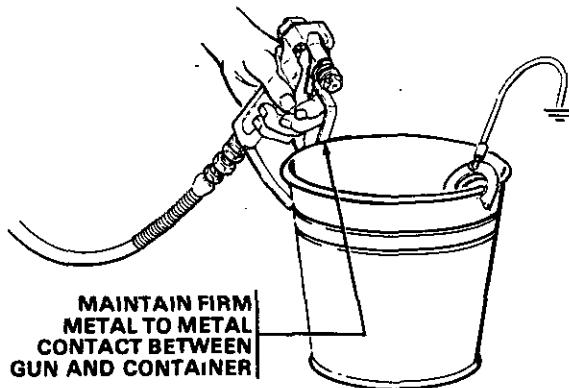

Fig 9
6. Disengage the gun safety latch. Point the spray gun into a grounded metal waste container and with a metal part of the gun firmly touching the metal container, squeeze the gun trigger. See Fig. 9. **This procedure helps reduce the risk of static sparking and splashing.** With the gun triggered, turn the ON/OFF switch to ON and slowly turn the pressure adjusting knob clockwise *Just until* the sprayer starts. Keep the gun triggered until clean solvent comes from the nozzle. Release the trigger and engage the gun safety latch.